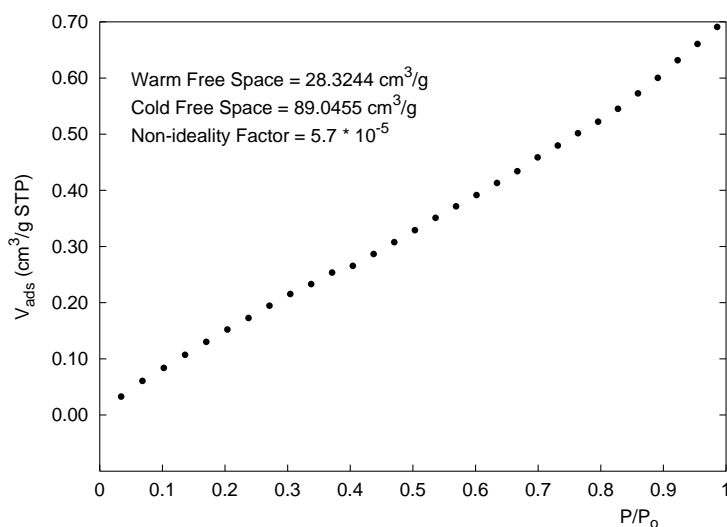
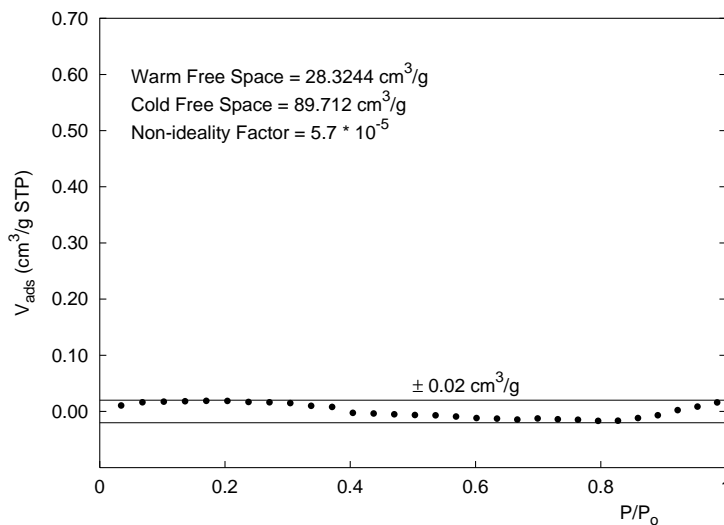

Figure 2. Blank tube analysis with reduced non-ideality factor
Figure 3. Optimized blank tube parameters
- In the sample file for the blank tube analysis, click the **Adsorptive Properties** tab. In this example for nitrogen, reduce the non-ideality factor approximately 10% from  $6.2 \times 10^{-5}$  to  $5.7 \times 10^{-5}$ . This will linearize the isotherm as shown in Figure 2. This correction is used to compensate for the portion of the empty tube that is not at liquid nitrogen temperature (77 K)..
5. To further minimize the blank error, add the volume at 0.95 P/P0 (Figure 2) to the cold free space. In this example (Figure 3), the cold free space is increased from the measured value of 89.0455 cm3/g to the optimized value of 89.712 cm3/g. The baseline error is reduced to less than ± 0.02 cm3/g.